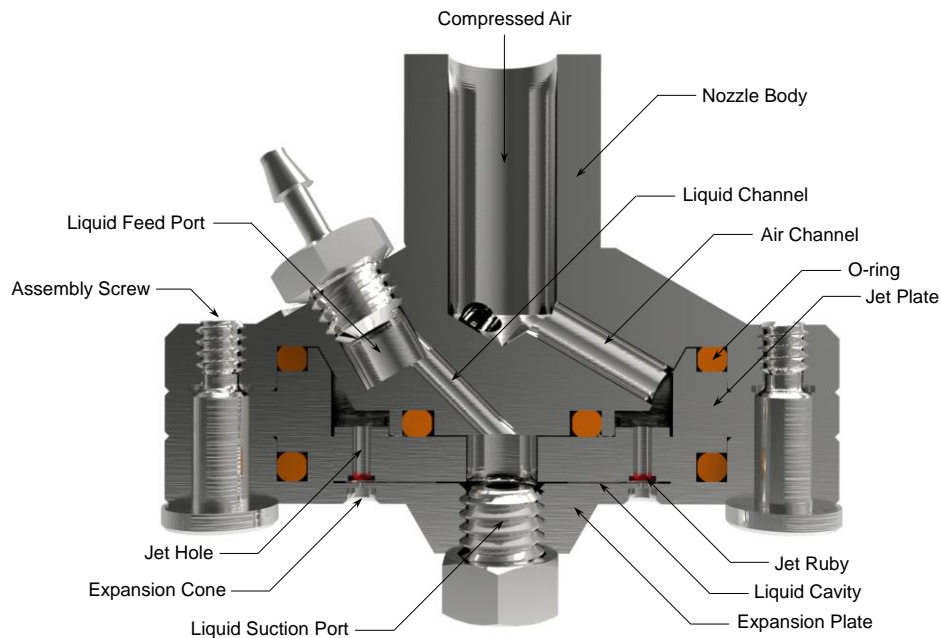

Figure 1. Components of BLAM's Atomizing Nozzle
Knowledge of the mechanism of aerosol formation by the BLAM will help you in determining the aerosol characteristics as well as being useful for maintenance. The atomizing head at the end of the air supply stem is the key to aerosol formation. It is composed of three main parts: Nozzle Body, Jet Plate and Expansion Plate (Figure 1).
5. Remove and carefully inspect the O-rings that seal the plates against each-other (refer to Figure 1 for details). If they show signs of damage, replace them with O-rings from the spare set supplied with the BLAM.